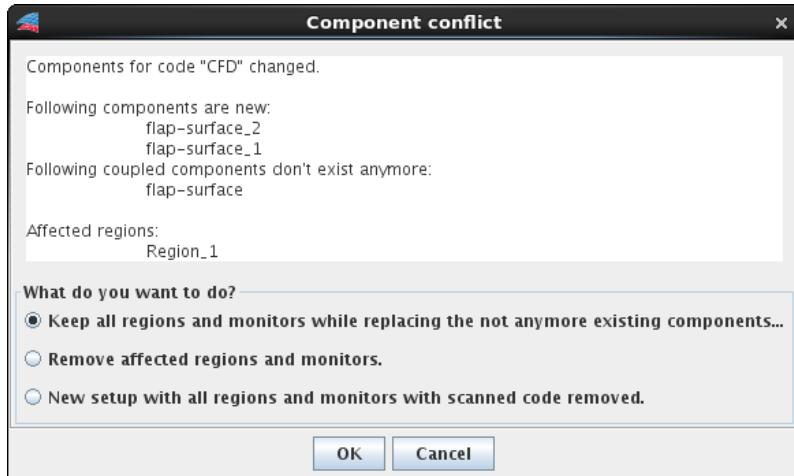

Figure 6: Component conflict after changing the model
- If at least one old coupled component doesn't exist anymore a component conflict dialog (see Figure 6) appears where the user has the choice among